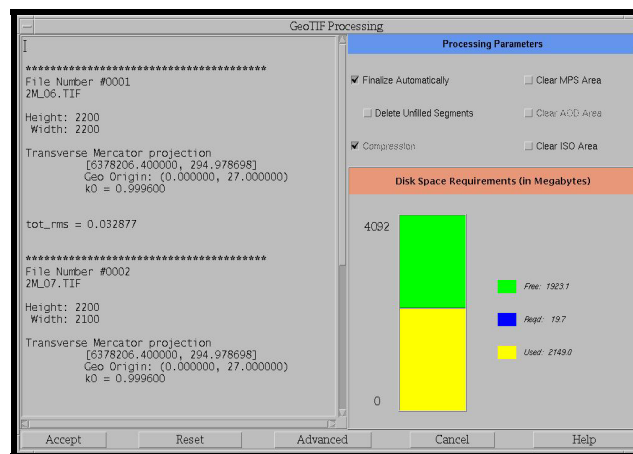

Fig. 6 – GeoTIF Processing window
- The **GeoTIF Processing Window** (Fig. 6) displays information about disk usage, processing options, and advanced options.
- i. The **GeoTIF Processing Window** (Fig. 6) displays information about disk usage, processing options, and advanced options.